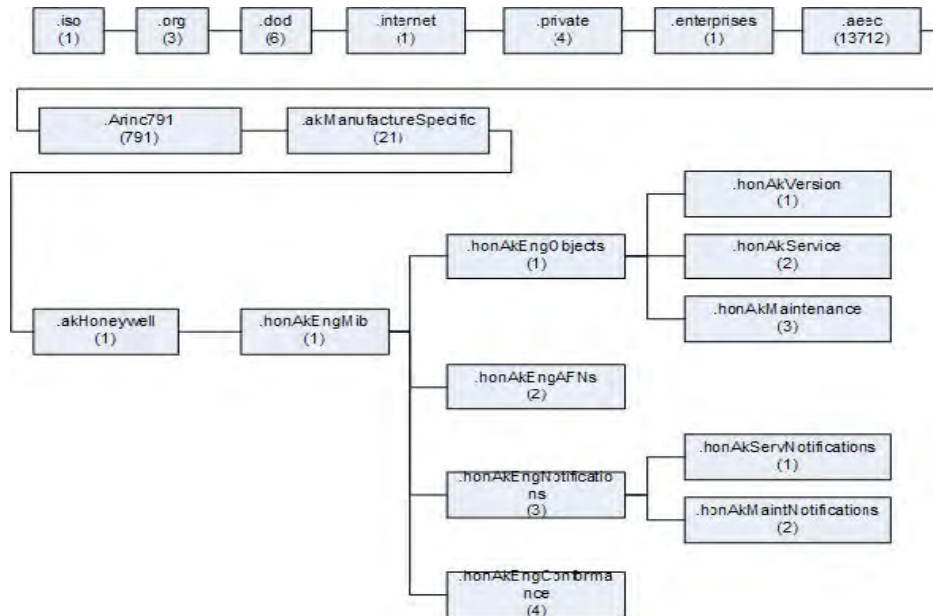

Figure B-1. MIB Object Structure
- (1) SNMP applications can monitor the MIB objects. The Modman implements the Honeywell engineering SNMP MIB with OIDs as shown in Figure B-1.